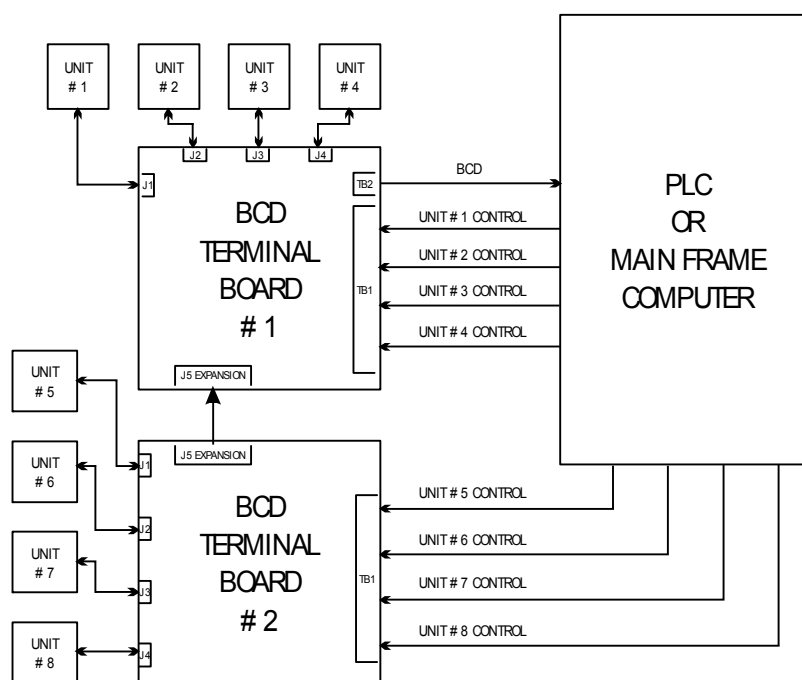

FIG. 3-14 BCD TERMINATION INSTALLATION BLOCK DIAGRAM
- Connect data/status lines from BCD terminal board to computer. (See Fig. 3-14)